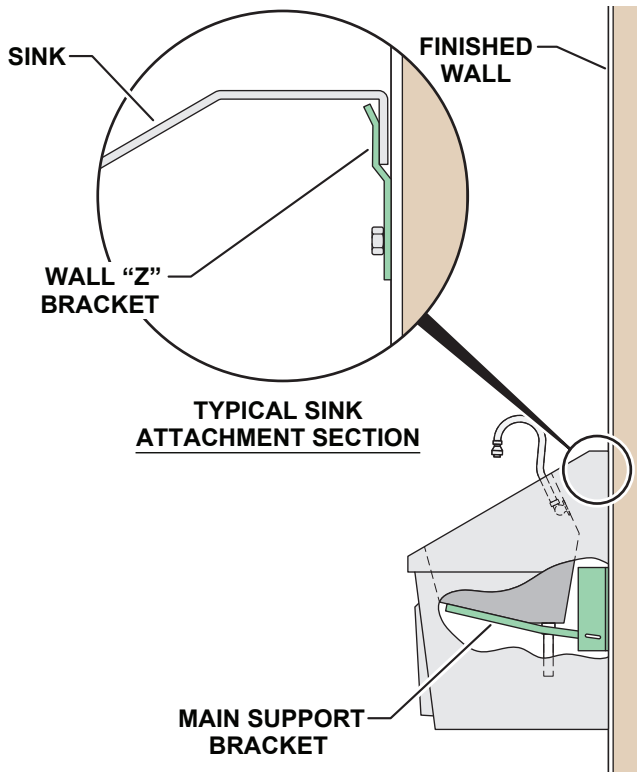

Figure 2. Sink Attachment.
1. Install sink assembly on brackets making sure the sink assembly is captured by the wall “Z” bracket(s) (Figure 2).